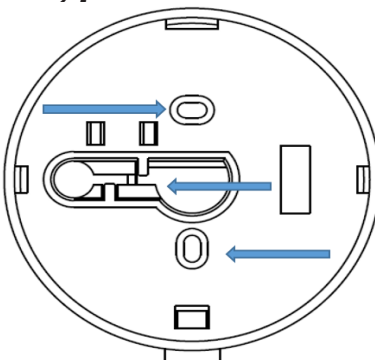

Figure 3b
2. The lock body should already be installed, with its cable running through the safe door. Place the antenna and the keypad cable into the recessed channel in the back of the keypad base, tucking it under the guide tabs. It is important to make sure they are kept in the recessed channel so they will not be crushed or crimped when the base is fastened to the front of the safe (figure 3b).